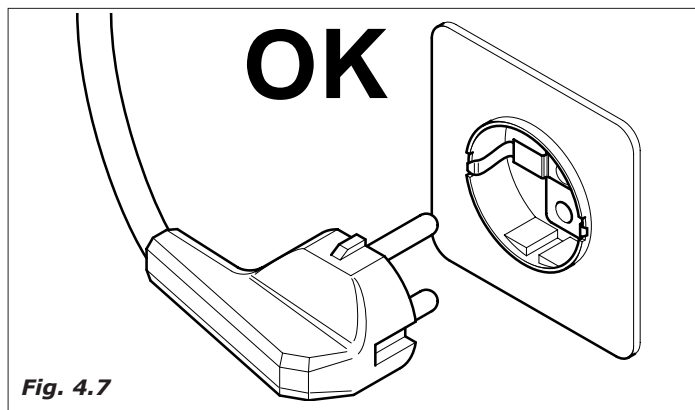

Fig. 4.7
- The distributor is equipped with a power supply cable of H05VV-F 3x1,5mm², with SCHUKO plug (Fig.4.7).